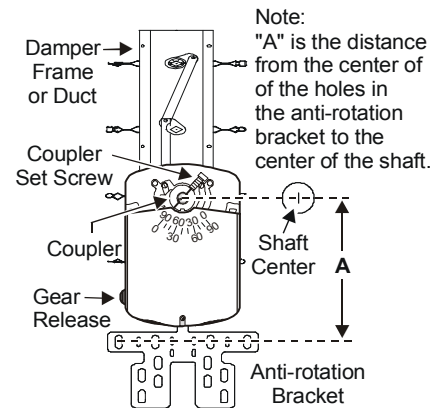
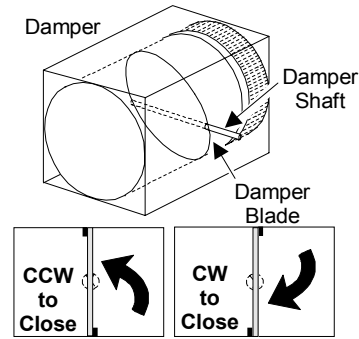

Figure 1: Mounting Positions
Figure 4: Damper Rotation
1. Press and hold the gear release lever, and rotate the coupler to the 0 or 90° position. Release the gear release lever. (See Figure 1.)
5. Refer to the "A" Dimensions in Table 1 and Figure 1 to position the anti-rotation bracket tab midway in the actuator slot.
- Secure the coupler to the shaft using a 5/16 in. (8 mm) square socket or 3/8 in. (10 mm) 12-point socket to tighten the coupler set screw against the damper shaft. (See Figure 1.)
- Continue tightening the coupler set screw shown in Figure 4 to achieve a torque of 150 to 180 lb-in (17 to 20 N-m).
- Press and hold the gear release lever shown in Figure 1, and rotate the actuator coupler and damper shaft to the fully closed position as shown in Figure 4.